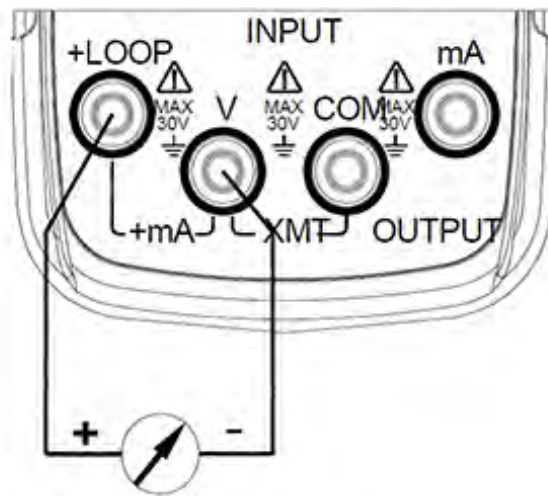

Figure 5-1
1. Insert one end of the test leads into the +mA output jack (OUTPUT) of the EC mAV 2 and connect the other end to the input of the user's instrument, as shown in figure 5-1: